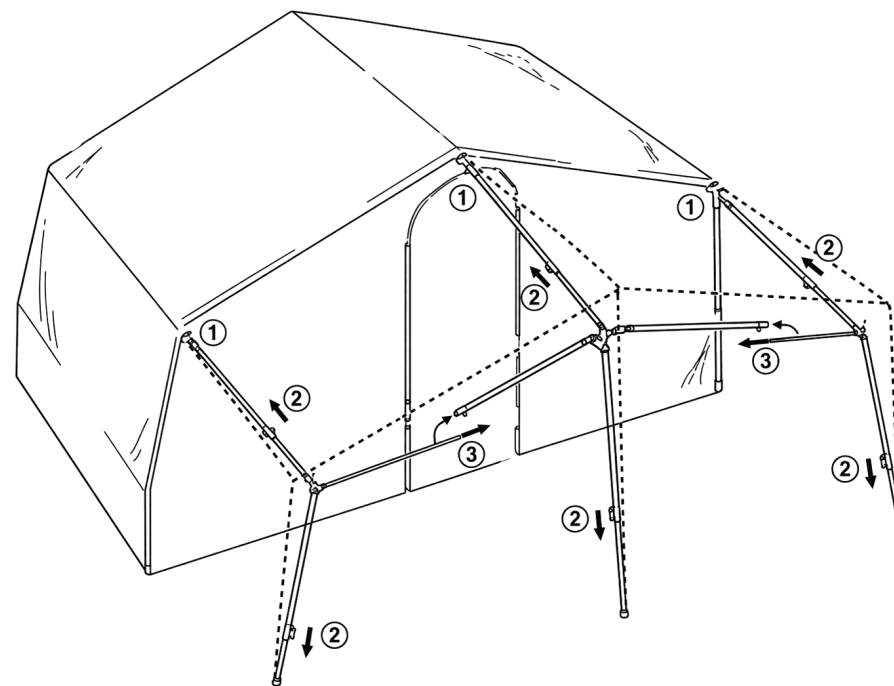

Figure 4:
4. Slide the ridge pole of the main tent (stowed on the left-hand side, next to the backrests) into the U-brackets (1) and (3) at the top on both sides.
- * **Note.** *Fitting the awning at the same time as the main tent.* The rear U-bracket (3) on the kitchen side is telescopic and adjustable in height, because that makes it easier to zip the awning on. If you intend to erect the awning at the same time as the main tent, it is practical to hook the awning frame in first and zip the awning on (see the information with figures 4 and 5), and only then telescope the U-bracket on the kitchen side up and slide the ridge pole (4) into the U-brackets on both sides. This way the reach is lower and hooking in the awning frame and zipping on the awning are easier.
5. Swing the 4 fold-out roof poles up from the corners and slide them into the U-shaped brackets (1) and (3) at the top on the sides; tension and lock them. (see detail 7)